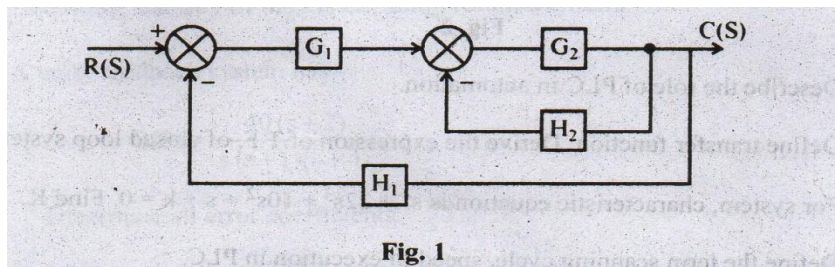

Fig. 1
b) Derive the transfer function of the following block diagram in fig. 1: